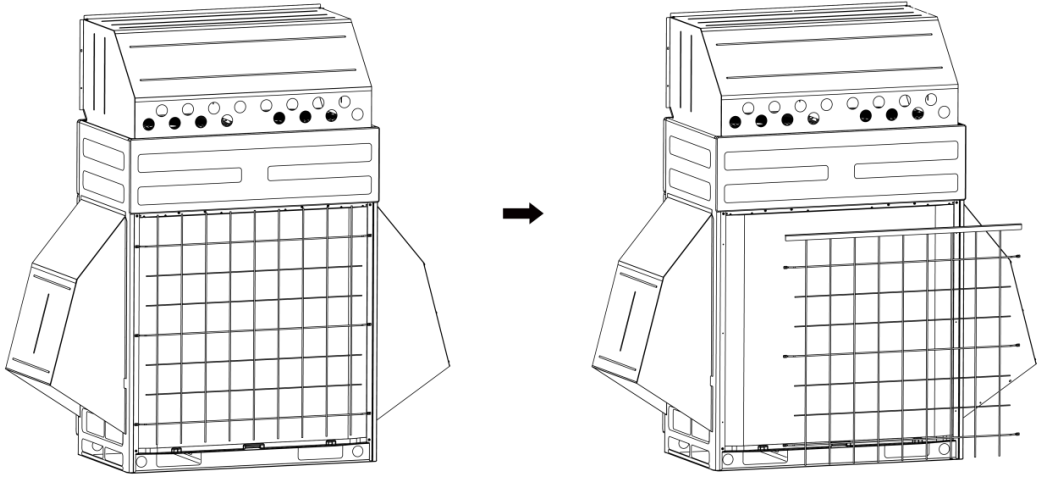

Fig. 3.33
(1) Take down the grille, as is shown in Fig 3.33.